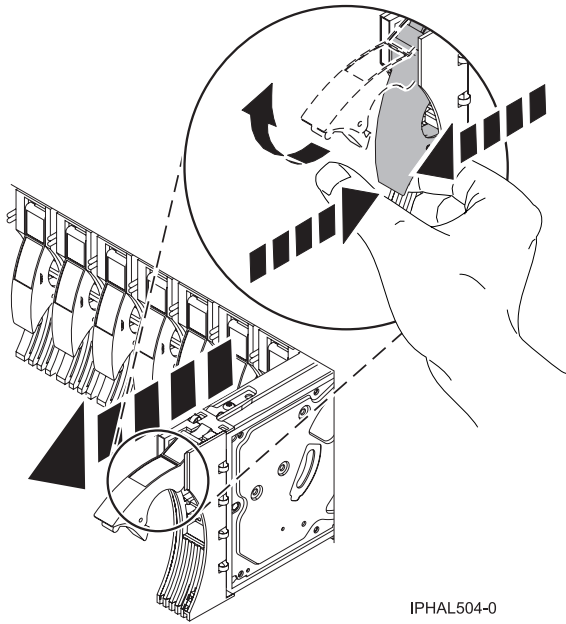

Figure 30. Removing a disk drive from a model or 7311-D20
8. Squeeze and pull the handle of the disk drive out toward you before you remove the disk drive as shown in Figure 30 on page 38. If the handle is not all the way out, the disk drive does not slide out of the system or expansion unit.